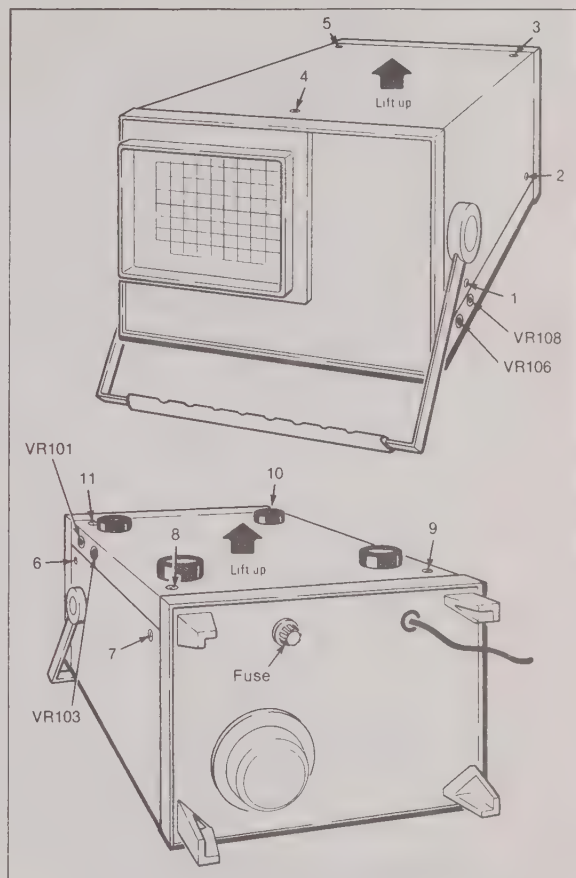

Fig. 17. Removing the Case.
The case is removed in two sections as shown in Fig. 17. The top section can be lifted off after removing seven Phillips head screws from the top and sides of the case. The bottom section can be lifted off after removing four Phillips head screws from the bottom of the case.
1. Remove the top case (Fig. 17).